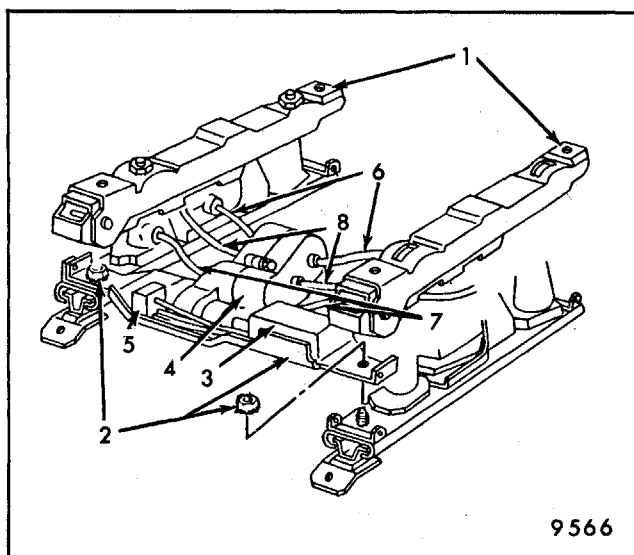

Fig. 9-21 - Power Operated Six-Way Seat Adjusters - All 45-55, 50-50 and 60-40 Seats
- Figure 9-21 - Power Operated Six-Way Adjusters - All 45-55, 50- 50 and 60-40 Seats
60-40, 50-50, 45-55 or bucket seats remove bolt securing motor and transmission support to adjuster being removed (see Fig. 9-21).